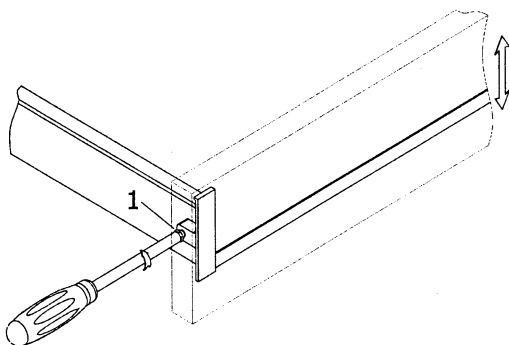

Fig. 6
Carry out the vertical adjustment of the frontal panel loosening the screw (1) of fig. 6, then adjust the position of the frontal panel and then tighten the screw (1) again.